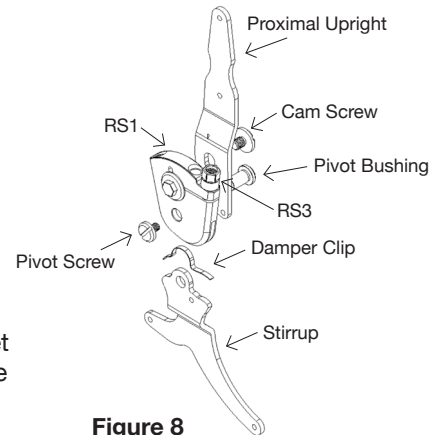

Figure 8
- Remove the pivot screw (**Figure 8**).
- Re-assemble the component (**Figure 8**).